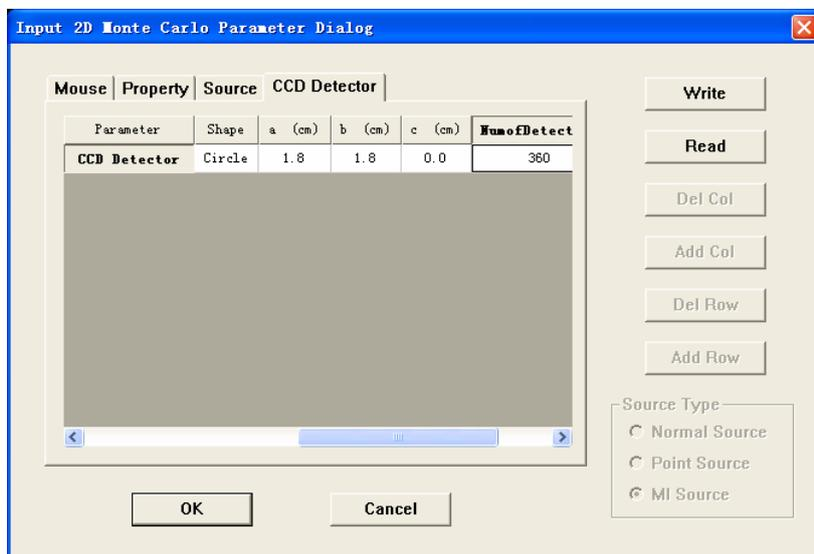

Figure 10-2. Input Dialogue for the Parameter of CCD Camera
Shape: the geometric shape of the CCD detectors (See Figure 10-2). In the **Shape** menu MOSE provides three kinds of distribution model: **Ellipse**, **Polygon**, and **Circle** (2D MOSE) and **Ellipsoid**, **Polyhedron**, **Cylinder** (3D MOSE).
a: semi-axes along the x coordinates (See Figure 10-2)
- b*: semi-axes along the y coordinates (See Figure 10-2)
- c*: semi-axes along the z coordinates (See Figure 10-2)
- NumofDetectors*: the number of the CCD detectors (See Figure 10-2)